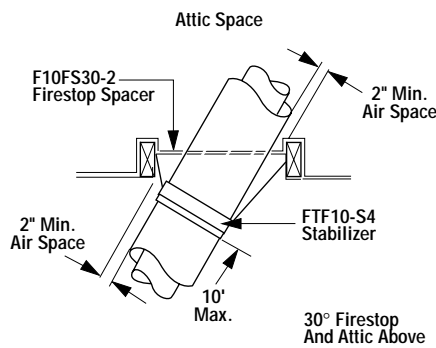
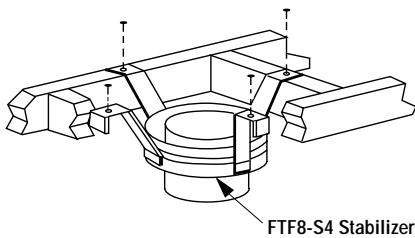

Figure 23
Figure 29
It may be necessary to assemble the chimney at 30° when passing through the floor or ceiling area. Use the F10FS30-2 firestop spacer as shown in Figures 23 and 24. Support the chimney at floor or ceiling penetration with a FTF10 stabilizer if distance of chimney below ceiling is 10' or more. Maintain 2" minimum air space to combustibles from chimney sections.
Install the Model FTF10-S4 stabilizer by fitting inner section down into respective section of preceding flue pipe and locking outer stabilizer section into place over the outer chimney pipe. Position for proper clearance through framed opening and nail straps securely (under tension in "shear") into place on framing. Use 8d nails. Attach successive lengths of chimney pipe directly to stabilizer using same techniques as described in Step 4 (**Figure 29**).
Step 9. Security Chimneys locking bands, Model FLB, may be required if the chimney extends too high above the roof flashing. As a general rule, if the chimney extends more than 6' above the roof flashing, the use of locking bands is advisable to strengthen the chimney assembly. Align the locking band at the chimney joint. Locking bands wrap around pipe joints equally covering the joints of both pipe sections. Use the nut provided and TIGHTEN snugly. Do not overtighten as this might damage the chimney section (refer to **Figure 29**).
Step 1. Use Offset Chart to determine amount of horizontal offset (A) and height (B) for various chimney section assemblies.
Step 3. Use Elevation Chart as job estimator only. Add necessary firestop spacers and stabilizers as required. Firestop spacers must be used as shown in **Figures 23 and 24** and stabilizers as shown in **Figure 29**.